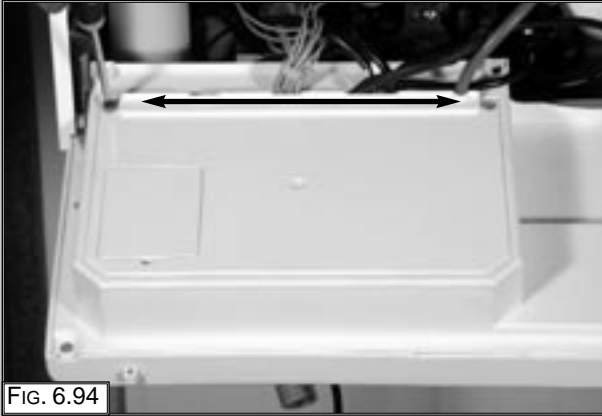

FIG. 6.94
1. Remove the inspection cover on the reverse of the control panel (FIG. 6.94);